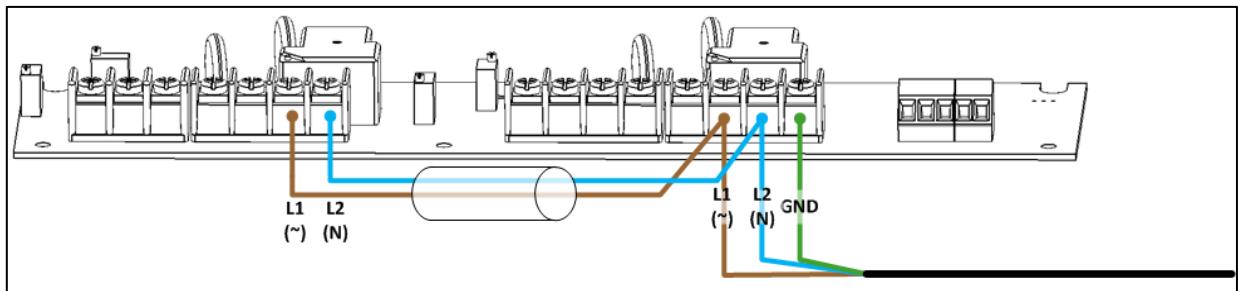

Figure 48: Variable speed card powering
5. Wire the Variable Speed Card to the power source (Figure 48).